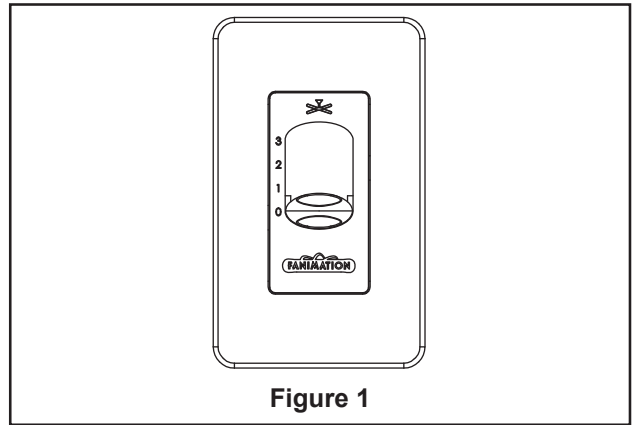
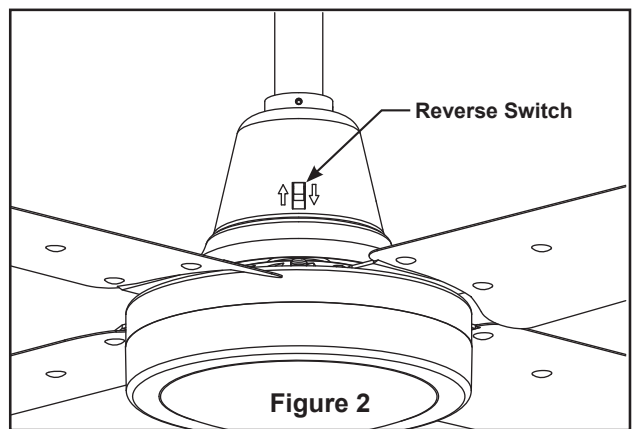

Figure 1
Figure 2
Your new ceiling fan will require a grounded electrical supply line of 120 volts AC, 60 HZ, 15 Amp Circuit. Electrical code requires use of a fan-rated outlet box to support the extra weight and motion associated with a ceiling fan. A fan-rated box will be labeled as such and typically supports up to a 70lb ceiling fan. Fan-Rated Outlet Boxes vary in ratings and design. Ensure the ratings of your ceiling fan outlet box meet the requirements for the ceiling fan being installed. Figure 1, Figure 2 and Figure 3 depicts different structural configurations that may be used for mounting the outlet box.
Low profile box (Figure 1)
Deep box (Figure 2)
1. Cut off excess lead wire approximately 6 to 9 inches above top of the top of the downrod. Strip insulation off 1/2 inch from the end of each lead wire. (Figure 1)
To avoid possible fire or shock, be sure electricity is turned off at the main fuse box before hanging. (Figure 1)
The fan must be hung with at least 10' of clearance from floor to blades. (Figure 2)
1. Installing Wall Control (Figures 1 & 2):
- Set the knob and light switch of the wall control in the off (0) position.
- Make wiring connections with wire nuts as shown in Figure 1.
- Attach wall control unit to outlet box using the two screws provided. Then, the face plate attaches the wall control. (Figure 2)
1. Remove one of the two shoulder screws in the hanger bracket. Loosen the second shoulder screw without fully removing it. Assemble canopy by rotating key slot in canopy over shoulder screw in hanger bracket. Tighten shoulder screw. Fully assemble and tighten second shoulder screw that was previously removed. (Figure 1)
2. Securely attach and tighten the canopy screw cover over the shoulder screws in the hanger bracket utilizing the keyslot twist-lock feature. (Figure 2)
1. Position the blades over the motor assembly. Make sure the blades is fully seated against the flywheel of motor assembly. Tighten the 1/4"-20 screws to secure the blades to the flywheel of motor assembly. (Figure 1)
1. Operating & Using Wall Control: (Figure 1)
2. If airflow is desired in the opposite direction, turn the fan off and wait for the blades to stop turning. Slide the reverse switch on top of motor assembly to the opposite position and turn fan on again. (Figure 2)